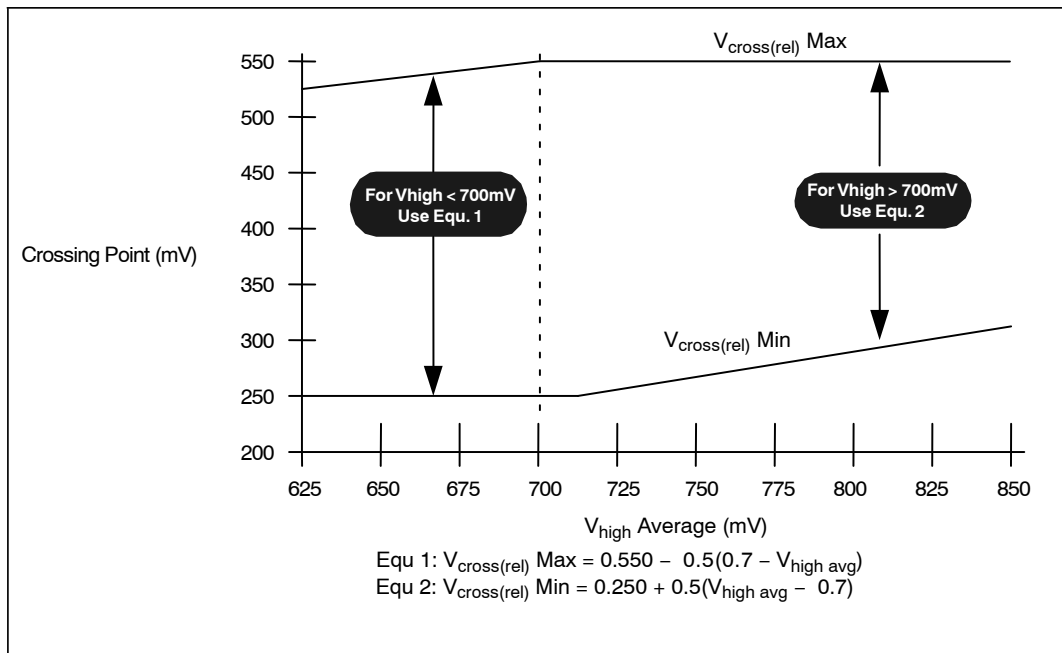

Figure 16. V_{cross} Range Clarification (Note 40)
16. Vcross(rel) Min and Max are derived using the following, Vcross(rel) Min = $0.250 + 0.5 (V_{\text{high avg}} - 0.700)$. Vcross(rel) Max = $0.550 - 0.5 (0.700 - V_{\text{high avg}})$. (see Figure 16 for further clarification).